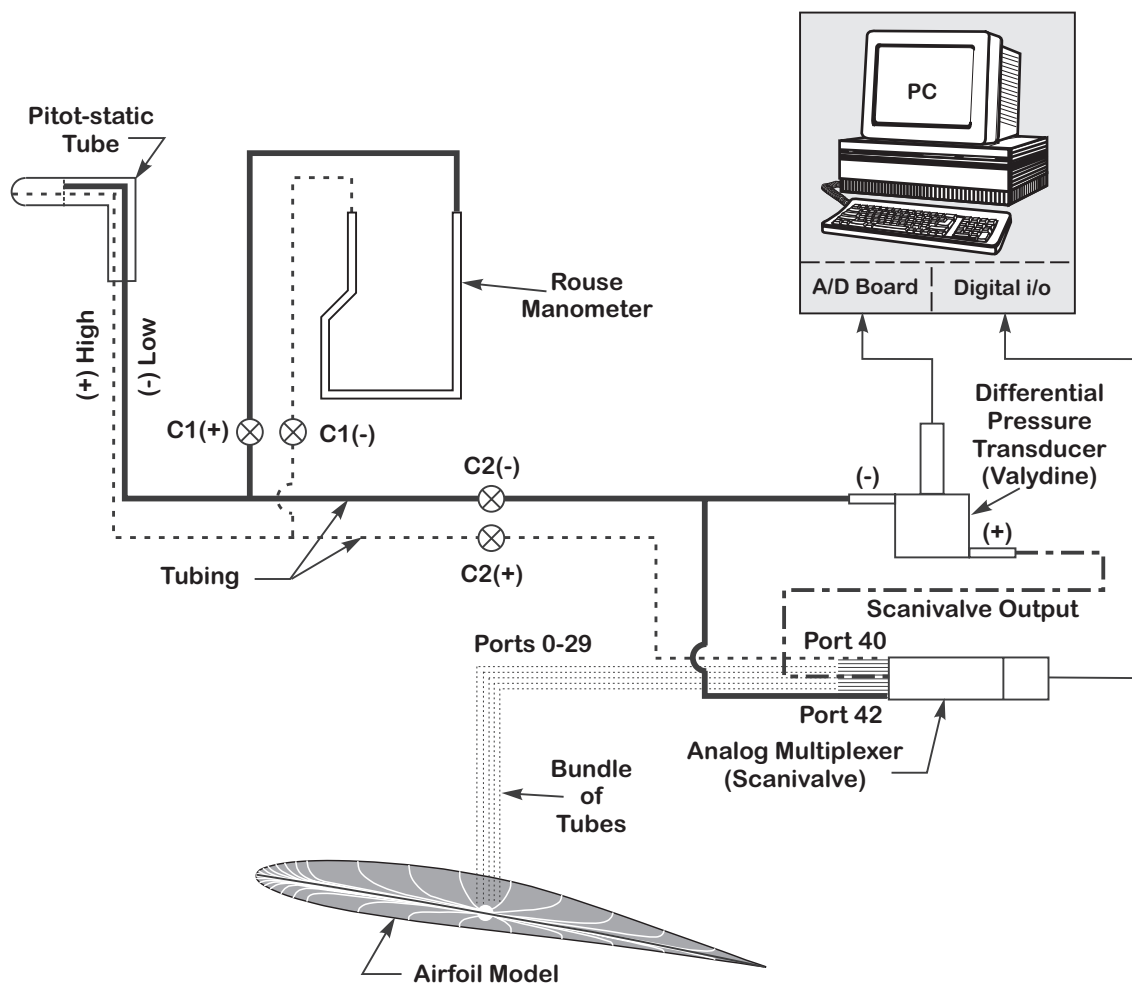

Figure 1. General configuration of the measurement system
- Check the tubing and the electrical connections (see Figure 1).
- Open on the computer the Virtual Instrument (VI): D:/lv_local_pc/IIHR.lib/IIHR.lib/RefCond.lib/tunnel velocity/temperature (see Figure 1) within this VI adjust the barometric pressure and the density of the liquid used in the Rouse manometer. Hit the “== >” sign on the menu bar. Minimize the window.